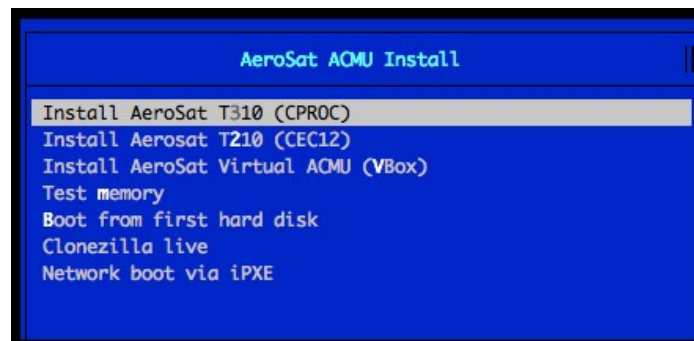

Figure 7.1 — AeroSat ACMU Install
4. Select **Install AeroSat T310 (CPROC)**, then press **Enter** to begin the install using the Install AeroSat T310 (CPROC) window. See Figure 7.1.